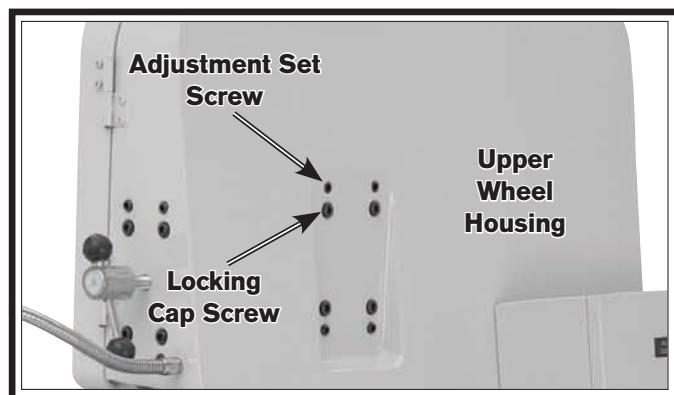

Figure 39. Wheel alignment.
4. Using a 6mm hex wrench, loosen the four locking cap screws (**Figure 39**).
5. Use a 5mm hex wrench to adjust the four set screws (**Figure 39**) to tilt the upper wheel in or out and bring blade tracking back to normal. Only adjust each screw in small increments.